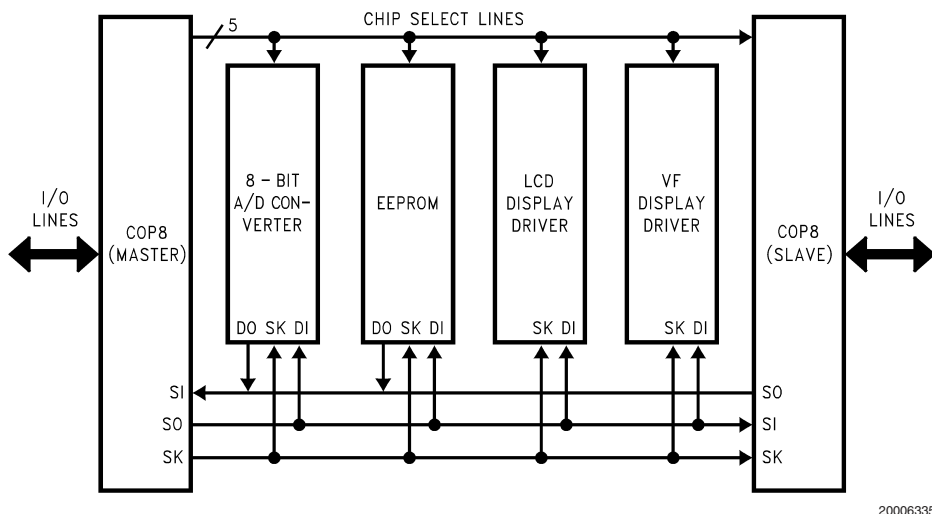

FIGURE 34. MICROWIRE/PLUS Application
MICROWIRE/PLUS is a serial SPI compatible synchronous communications interface. The MICROWIRE/PLUS capability enables the device to interface with MICROWIRE/PLUS or SPI peripherals (i.e. A/D converters, display drivers, EEPROMs etc.) and with other microcontrollers which support the MICROWIRE/PLUS or SPI interface. It consists of an 8-bit serial shift register (SIO) with serial data input (SI), serial data output (SO) and serial shift clock (SK). *Figure 34* shows a block diagram of the MICROWIRE/PLUS logic.
Setting the BUSY bit in the PSW register causes the MICROWIRE/PLUS to start shifting the data. It gets reset when eight data bits have been shifted. The user may reset the BUSY bit by software to allow less than 8 bits to shift. If enabled, an interrupt is generated when eight data bits have been shifted. The device may enter the MICROWIRE/PLUS mode either as a Master or as a Slave. *Figure 34* shows how two microcontroller devices and several peripherals may be interconnected using the MICROWIRE/PLUS arrangements.